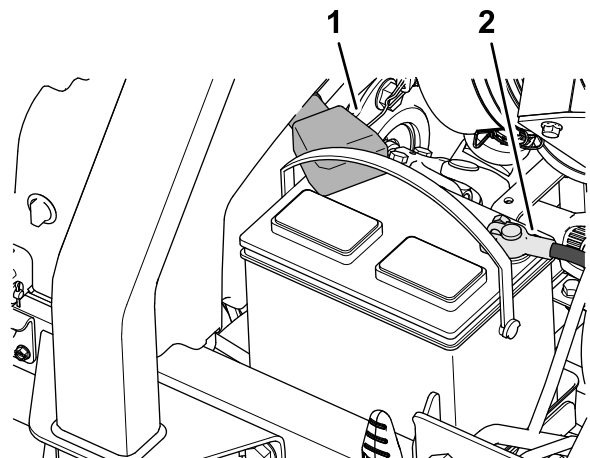

Figure 94
3. Disconnect the negative battery cable (Figure 94).